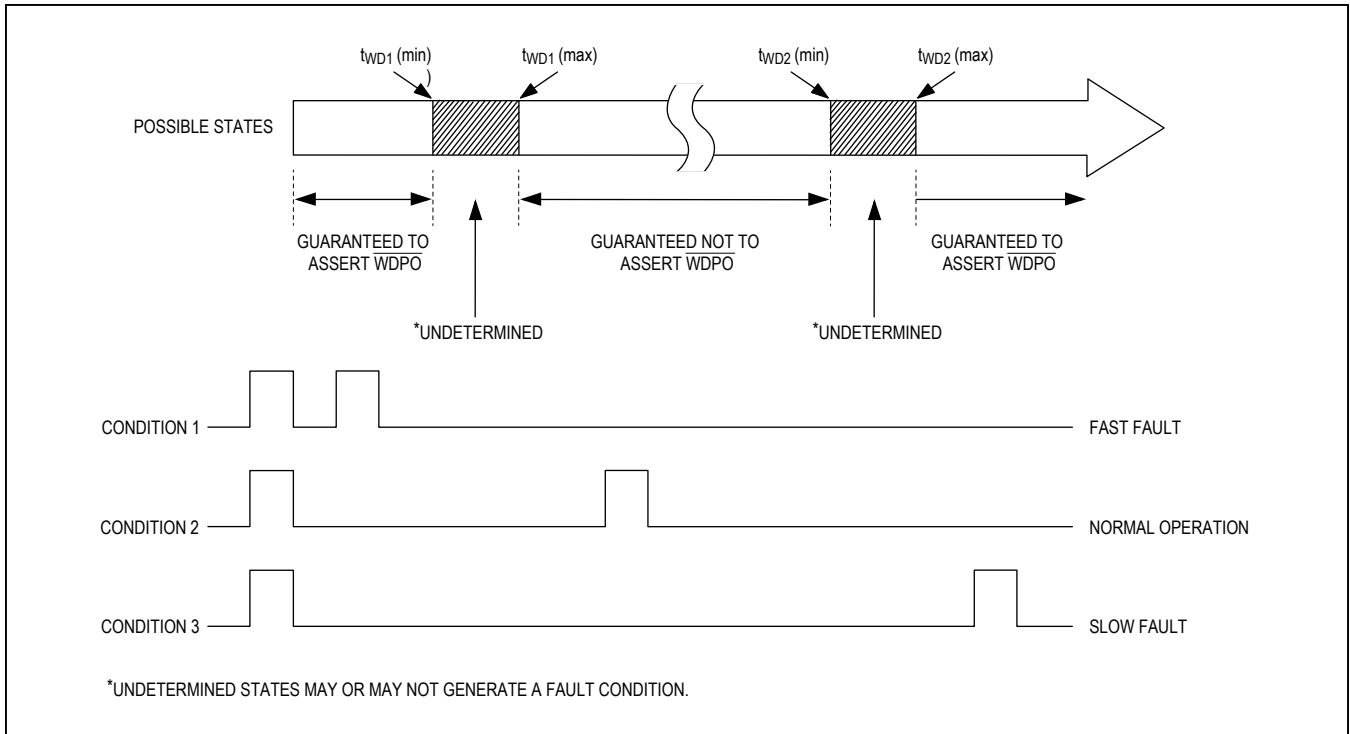

Figure 1. Detailed Watchdog Input Timing Relationship
*See Figure 1 for operation.
The MAX6323/MAX6324 μP supervisory circuits maintain system integrity by alerting the μP to fault conditions. In addition to a standard V_{CC} monitor (for power-on reset, brownout detect, and power-down reset), the devices include a sophisticated watchdog timer that detects when the processor is running outside an expected window of operation for a specific application. The watchdog signals a fault when the input pulses arrive too early (faster than the selected t_{WD1} timeout period) or too late (slower than the selected t_{WD2} timeout period) (Figure 1). Incorrect timing can lead to poor or dangerous system performance in tightly controlled operating environments. Incorrect timing could be the result of improper μP clocking or code execution errors. If a timing error occurs, the MAX6323/MAX6324 issue a watchdog pulse output, independent from the reset output, indicating that system maintenance may be required.
than t_{WD1}) (Figure 2) or falling edges that are too far apart (slower than t_{WD2}) (Figure 3), $\overline{\text{WDPO}}$ is pulsed low. Normal watchdog operation is displayed in Figure 4 ($\overline{\text{WDPO}}$ is not asserted). The internal watchdog timer is cleared when a WDI falling edge is detected within the valid watchdog window or when the device's $\overline{\text{RESET}}$ or $\overline{\text{WDPO}}$ outputs are deasserted. All WDI input pulses are ignored while either $\overline{\text{RESET}}$ or $\overline{\text{WDPO}}$ is asserted. Figure 1 identifies the input timing regions where $\overline{\text{WDPO}}$ fault outputs will be observed with respect to t_{WD1} and t_{WD2}. After $\overline{\text{RESET}}$ or $\overline{\text{WDPO}}$ deasserts, the first WDI falling edge is ignored for the fast fault condition (Figure 2).